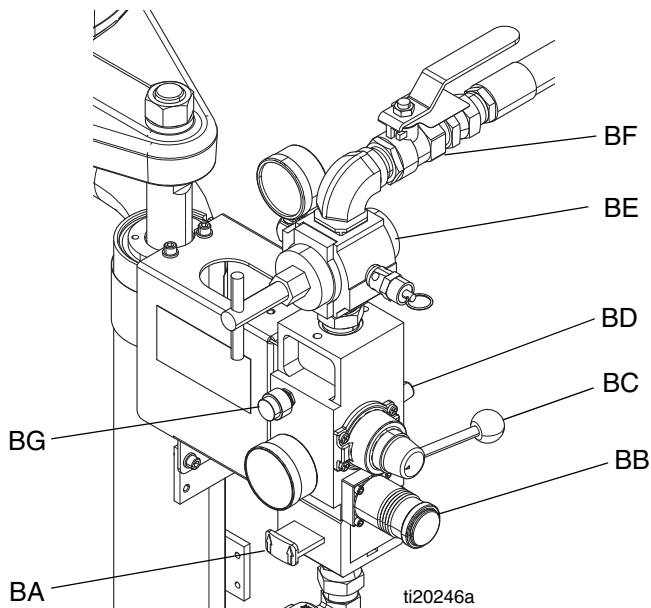
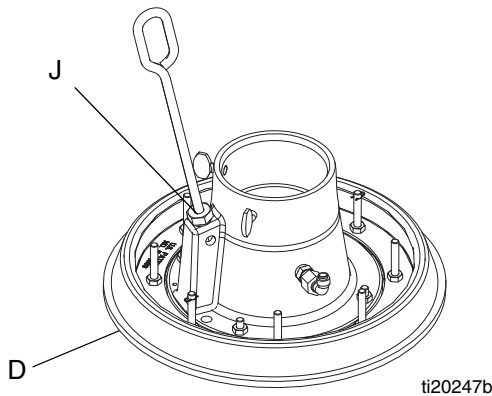

FIG. 2. Integrated Air Controls
FIG. 9
| G | Integrated Air Controls (see FIG. 2 on page 6) | V | Bleed Type Air Shutoff Valve |
2. See FIG. 2, page 6.
- a. Close the air motor ball valve (BF) and the main air slider valve (BA).
- b. *If the RAM is in a raised position*, set the ram director valve (BC) to DOWN. The ram will slowly drop.
2. Refer to FIG. 1 and FIG. 2. Close all air regulators and air valves.
3. Open main air slider valve (BA) and set ram air regulator (BB) to 45 psi (0.31 MPa, 3.1 bar). Set director valve handle (BC) to UP and let the ram rise to its full height.
- Put a full drum of fluid on the ram base, slide it back against the drum stops, and center it under the platen (D). See FIG. 9.